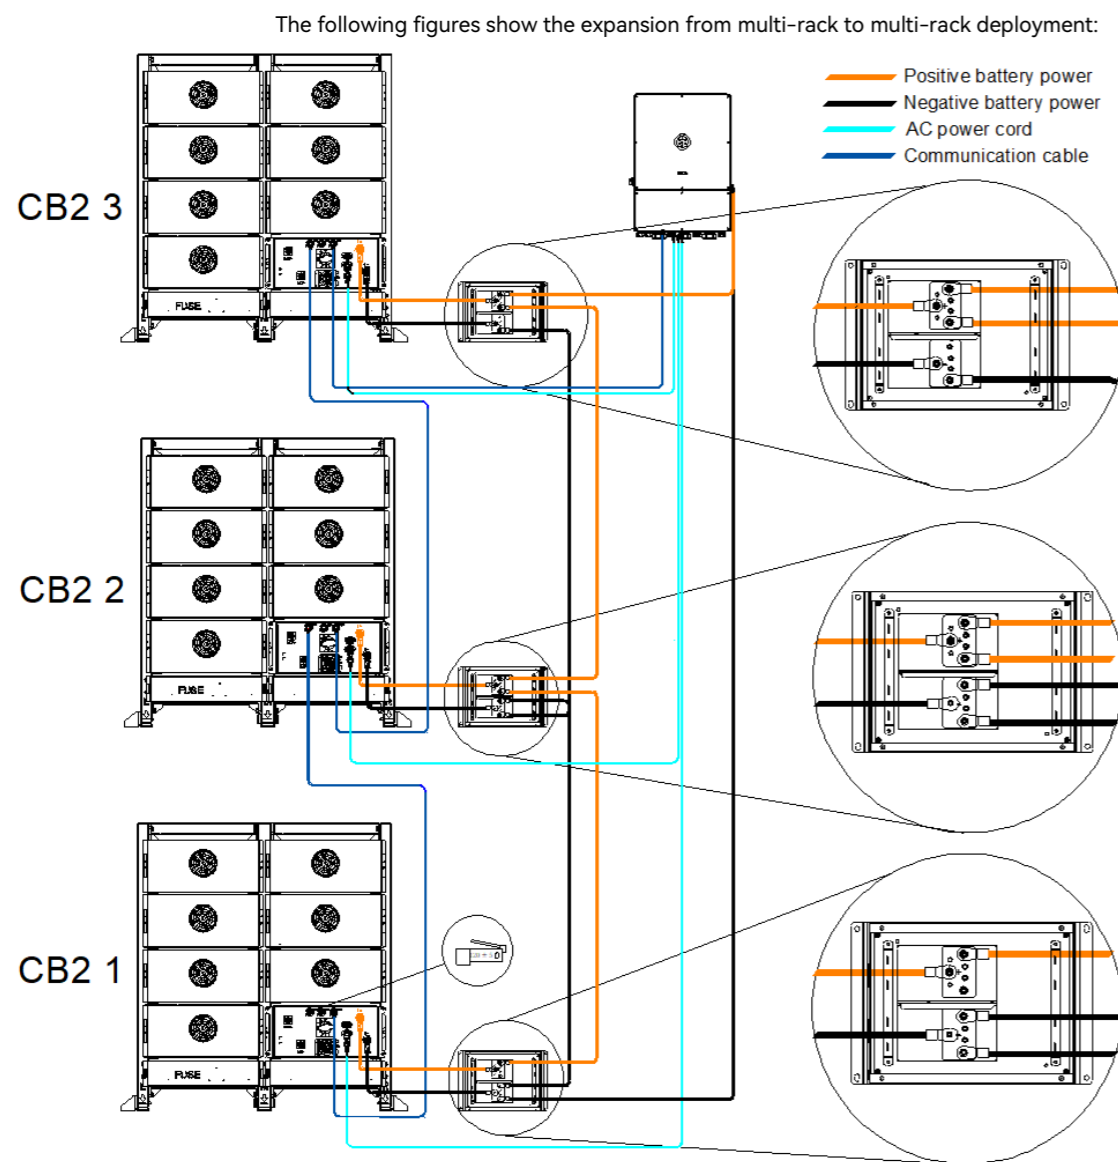
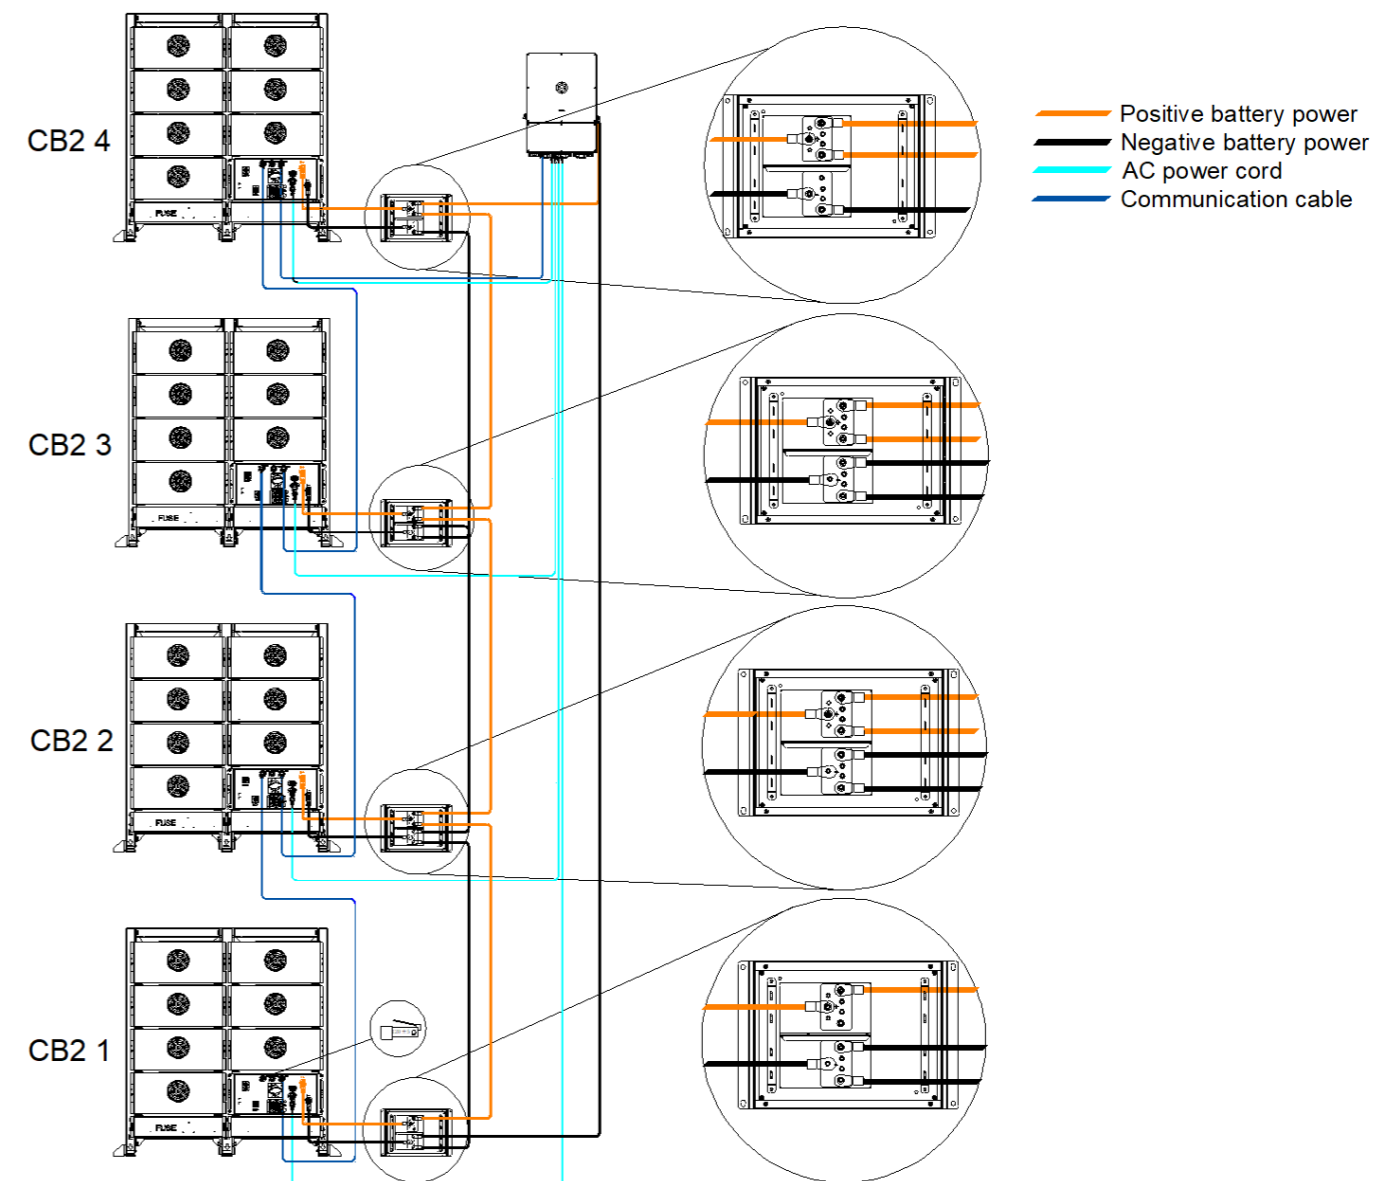

Figure 7.2. Two-rack to three-rack expansion
Figure 7.3. Two-rack to four-rack expansion
- Prepare the cable connections between the new CB2 battery system, distribution box, and CH2 inverter. See Figure 7.2 Two-rack to three-rack expansion and Figure 7.3 Two-rack to four-rack expansion for reference.